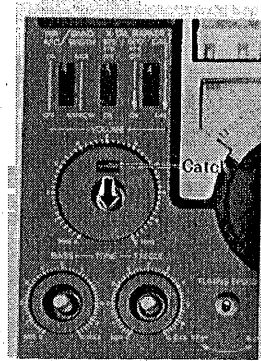

Fig. 2
8. Push in the direction of arrow, as shown in fig. 2 and remove the front cover.